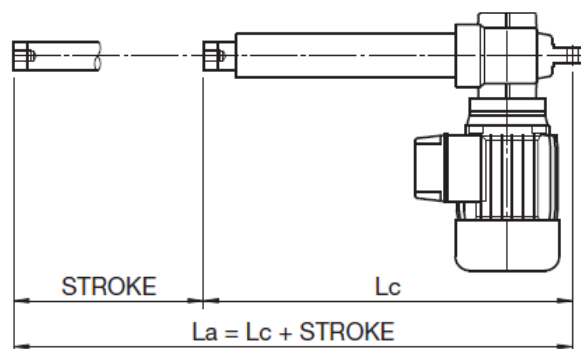

Figure 6.7 – “Lc” and “La” dimensions
- Check if the extreme dimensions of the actuator “Lc” and “La” (see Fig. 6.7) are compatible with extreme positions of the plant component that has to be moved.
- Before to start relubrication, put the actuator in extended position (La – see Fig. 6.7)